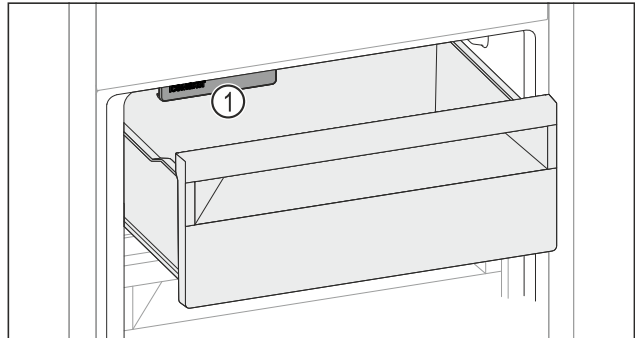

Fig. 222
- ▶ Watch out for the IceMaker Fig. 222 (1).